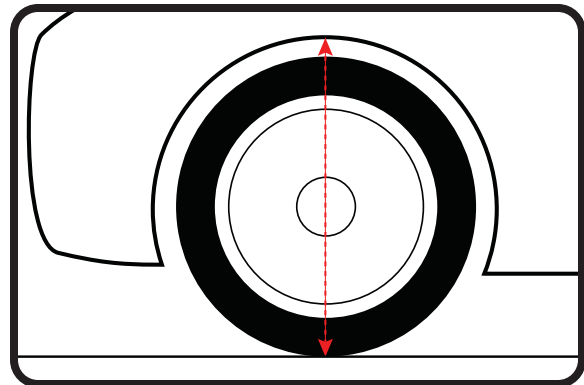

Figure 2
Next, install a delrin washer then coil spring over the top of the shock as seen in figure 2.
2. At the centerline of the wheel, take a measurement from the fender lip to the ground (Figure 2).